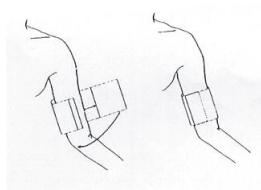

Figure 12-1 Cuff use
2. Apply blood pressure cuffs to the patient's upper arm or thigh as shown in Figure 12-1 as follows.